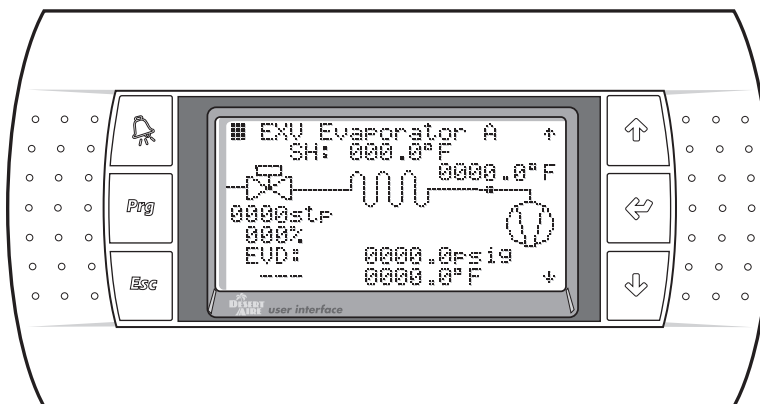

Figure 21
2.3.4. EXV/EMV Status (Figures 21 - 23)